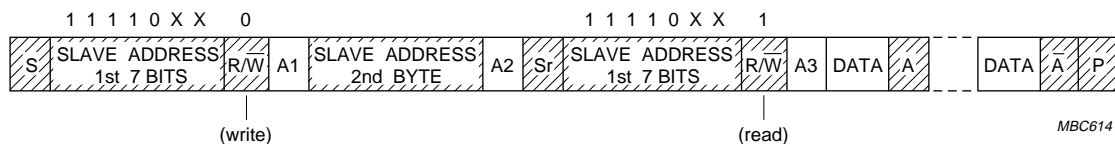

Fig.27 A master-receiver addresses a slave-transmitter with a 10-bit address.
The transfer direction is changed after the second $\overline{R/\overline{W}}$ bit (Fig.27). Up to and including acknowledge bit A2, the procedure is the same as that described for a master-transmitter addressing a slave-receiver. After the repeated START condition (Sr), a matching slave remembers that it was addressed before. This slave then checks if the first seven bits of the first byte of the slave address following Sr are the same as they were after the START condition (S), and tests if the eighth ($\overline{R/\overline{W}}$) bit is 1. If there is a match, the slave considers that it has been addressed as a transmitter and generates acknowledge A3. The slave-transmitter remains addressed until it receives a STOP condition (P) or until it receives another repeated START condition (Sr) followed by a different slave address. After a repeated START condition (Sr), all the other slave devices will also compare the first seven bits of the first byte of the slave address (11110XX) with their own addresses and test the eighth ($\overline{R/\overline{W}}$) bit. However, none of them will be addressed because $\overline{R/\overline{W}} = 1$ (for 10-bit devices), or the 11110XX slave address (for 7-bit devices) does not match.